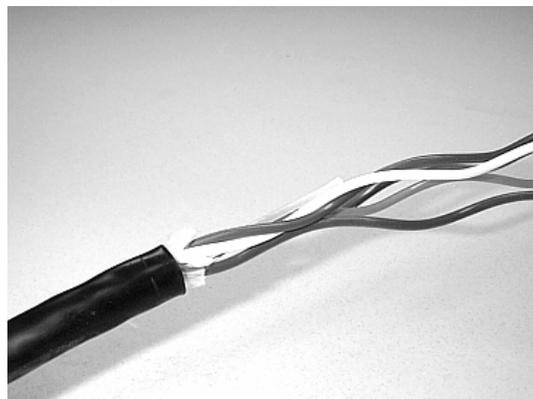

Figure 17 - Unwrap the buffer tubes.
4.19 Carefully unwrap the buffer tubes from one another and remove any water blocking threads between the tubes and the central member (Figure 17).